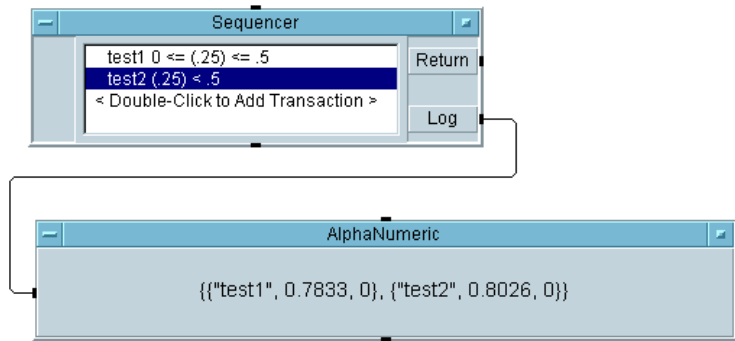

Figure 234 A Simple **Sequencer** Example
- Run the program and note the two records of data from the two tests. Save the program as **seq1.vee**. The program should look like Figure 234.